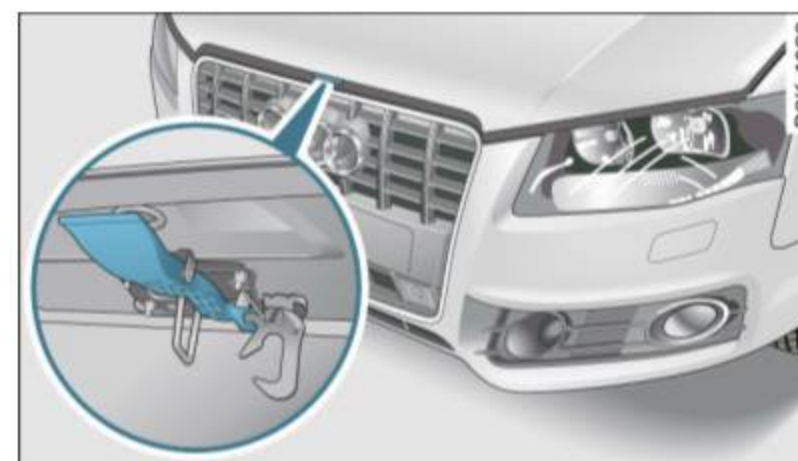

Fig. 211 Release lever under the engine hood
- Pull up on the release under the hood ⇒ fig. 211. This releases the catch.